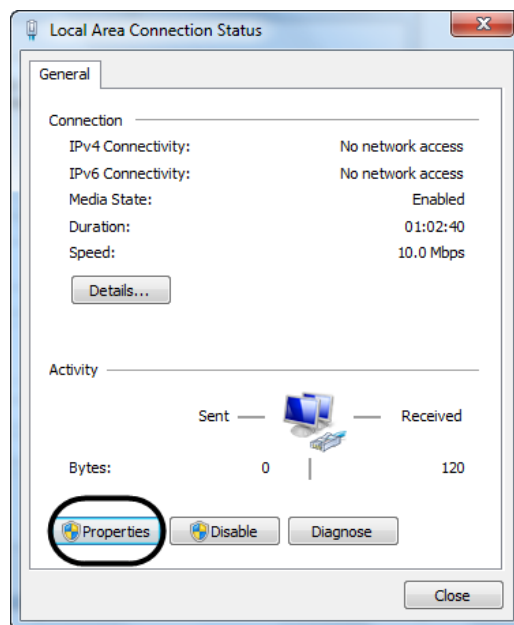

Figure 67
5. In the **Local Area Connection Status** dialog box, click the **Properties** button (Figure 67).